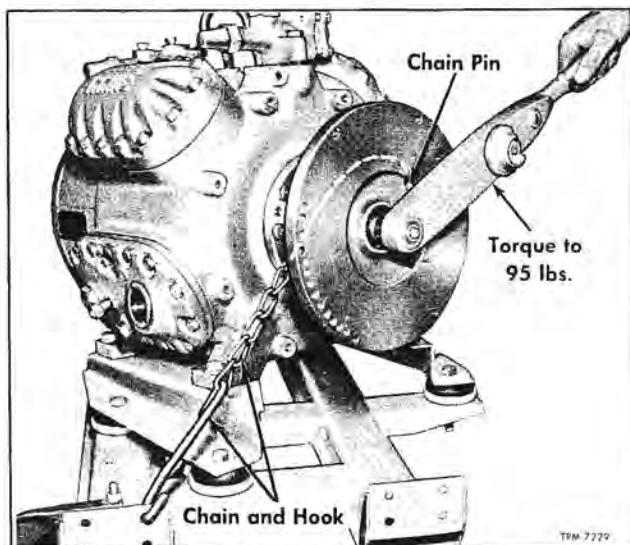

Figure 107—Tightening Compressor Flywheel Bolt
1. Remove pilot bearing (35) from compressor flywheel using convention bearing puller tool.
2. Using proper size wrench socket, remove bolt (36) and flat washer (37) which attach flywheel (1) to compressor shaft (fig. 107). Remove flywheel and flywheel key (38).
1. Insert drive key (38) into slot of compressor crankshaft, then with flywheel aligned, position flywheel to compressor. Install flywheel flat washer (37) and special bolt (36). Tighten bolt to 95 lbs. torque in manner shown in figure 107.